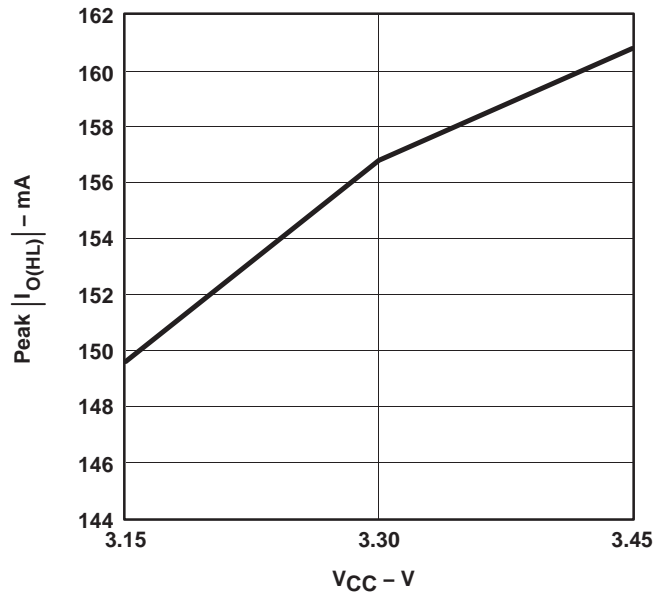

**Figure 5**
In general, the rise- and fall-time distribution is shown in Figure 5. Since VME devices were designed for use into distributed loads like the VME64x backplane (B/P), there are significant differences between low-to-high (LH) and high-to-low (HL) values in the lumped load shown in the PMI (see Figures 1 and 2).